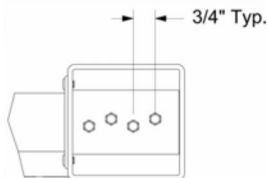

Fig. 5 Securing Rail in Gate Pocket
- g.) **Square Gate and Secure rails in Gate Pocket:** Square the gate using the carpenter's square and secure the top and bottom rails in the gate pockets using four 1" self-tapping screws provided. The pattern should look similar to Fig. 5.
- Square Gate and Secure rails in Gate Pocket:** Square the gate using the carpenter's square and secure the top and bottom rails in the gate pockets using four 1" self-tapping screws provided. The pattern should look similar to Fig. 5 on Page 2.
- Square Gate and Secure rails in Gate Pocket:** Square the gate using the carpenter's square and secure the top and bottom rails in the gate pockets using four 1" self-tapping screws provided. The pattern should look similar to Fig. 5.